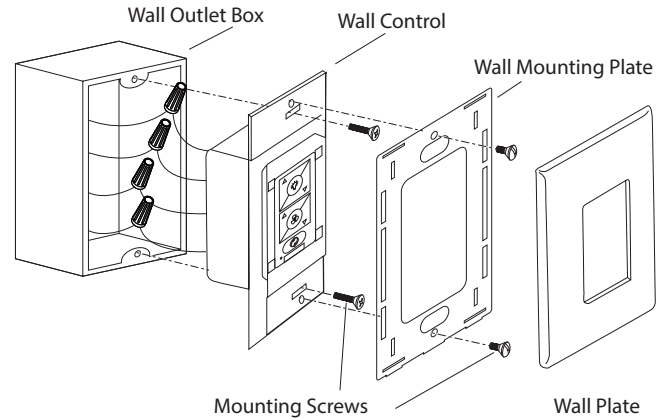

FIG.14
1. Carefully tuck the wire connections inside the outlet box. Secure the wall control with the 2 wall control screws provided (**FIG.14**).